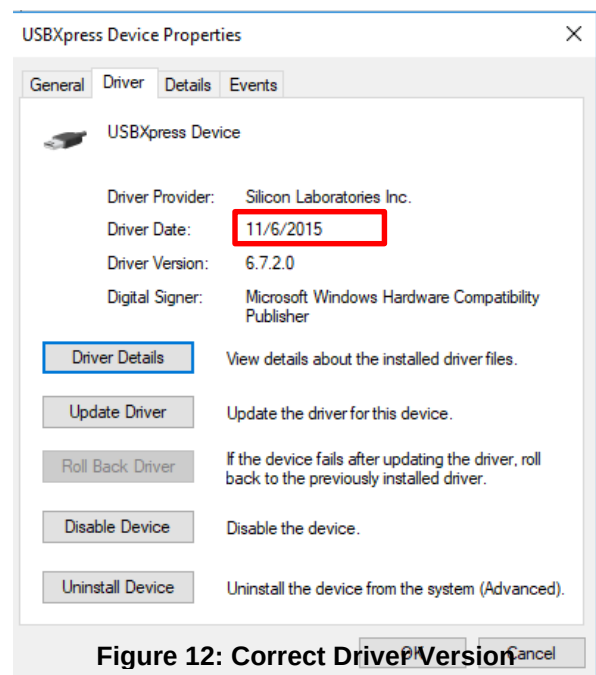

Figure 12: Correct Driver Version
*Right click and view properties. Check to make sure the driver version matches the newest version (see Figure 12).*